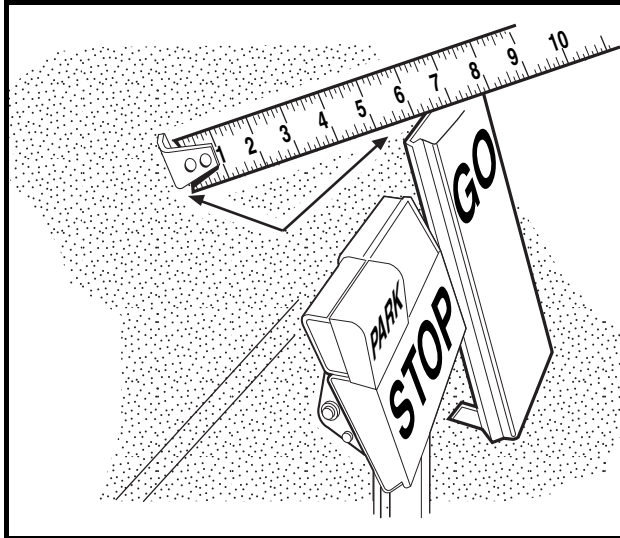

Figure 5-25 Accelerator Pedal Height Measurement
- 3.3. With the park brake unlocked, measure and note the distance from the top of the accelerator pedal to the floorboard, then lock the park brake (**Figure 5-25, Page 5-18**).